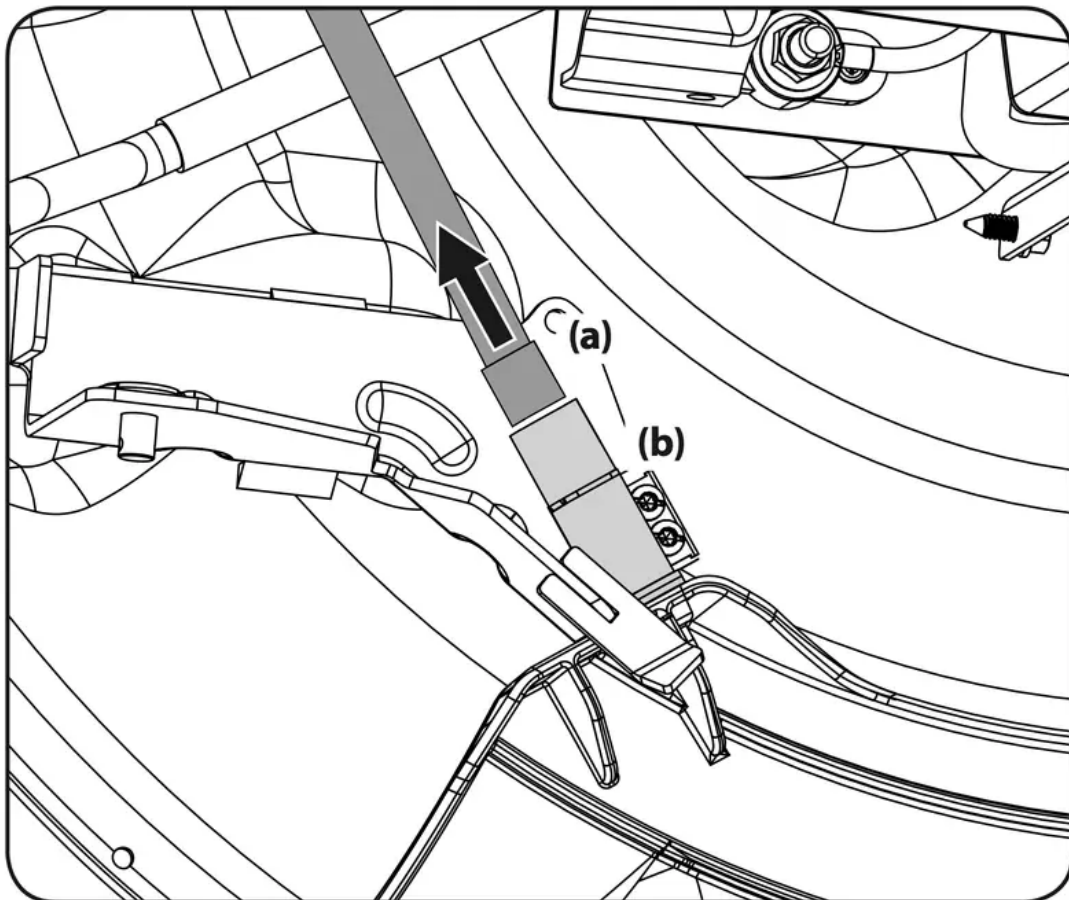

Figure 22
6. Unplug the wire connector (a) from the safety switch (b) at the rear of the chute opening. See Figure 22.
3. Plug the wire connector (a) into the safety switch (b) at the rear of the chute opening. See Figure 22.
Note: Be sure to securely reconnect the wire connector to the safety switch in Figure 22, you tractor will not start or operate without the safety switch properly connected.